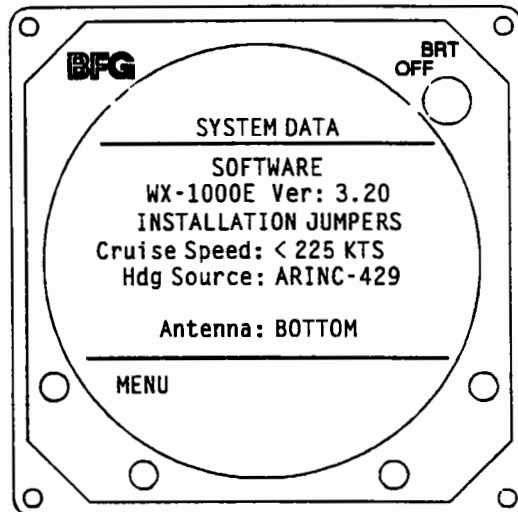

Figure B-1. System Data Presentation (ARINC-429 Heading Source)
The SYSTEM DATA display can be accessed to verify the heading source for the *Stormscope* system. A WX-1000 display is required to access this display via the SERVICE MENU. Refer to paragraph 3.5.1 to access the SYSTEM DATA display. The display presented when the ARINC-429 Option is employed is shown in figure B-1. The entry "Heading Source" will identify an analog synchro source (XYZ) or an ARINC-429 source (429) for heading data. If gyro jumper is connected (P302 pins 26 to 43), XYZ heading source is assumed. If jumper is not present, ARINC-429 heading is assumed.